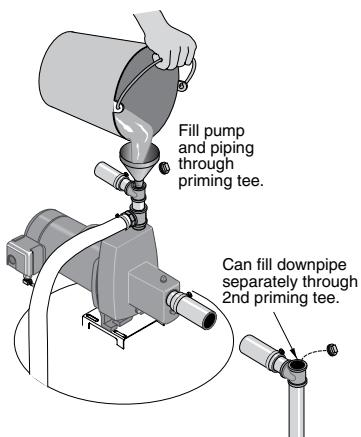

Figure 10: Prime the Pump
1. Remove the priming plug from the priming tee and fill the pump. Fill all piping between the pump and the well and make sure that all piping in the well is full. If you have also installed a priming tee in the suction piping, remove the plug from the tee and fill the suction piping. See Figure 10.